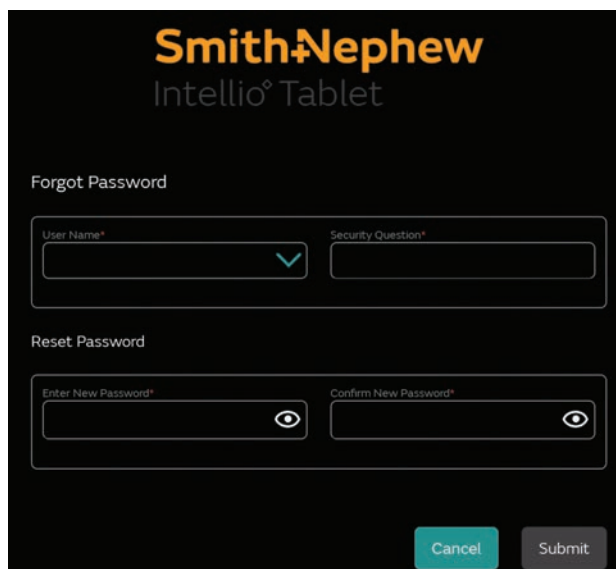

Figure 59. Forgot Password
1. From the Log in screen, tap Forgot Password. The Forgot Password screen appears (Figure 59).